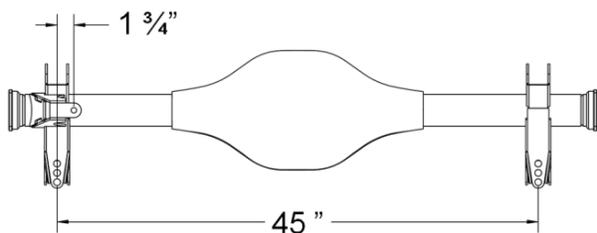

Figure 2- Axle Bracket Locations
- 5.) If you purchased a complete rear axle housing with the brackets all ready installed, you can install it now. If you are installing the brackets on your own housing, note that the bottom brackets locate the top brackets as well as the Panhard bar. The coil-over brackets are located 45" apart. They are centered equal distance from the outer ends of the housing, see **Figure 2**.